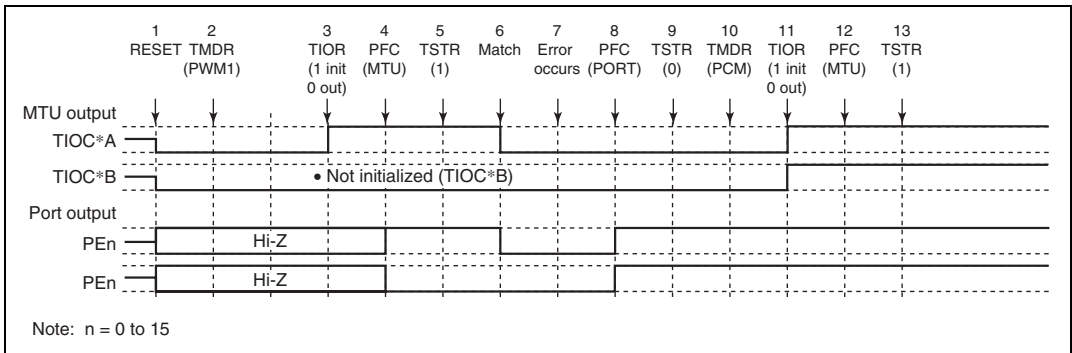

Figure 10.67 Error Occurrence in PWM Mode 1, Recovery in Phase Counting Mode
(8) Operation when Error Occurs during PWM Mode 1 Operation, and Operation is Restarted in Phase Counting Mode: Figure 10.67 shows an explanatory diagram of the case where an error occurs in PWM mode 1 and operation is restarted in phase counting mode after re-setting.